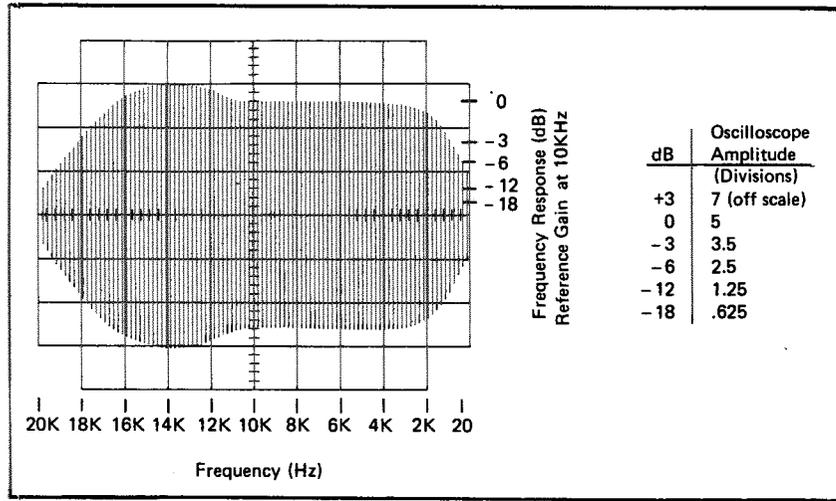
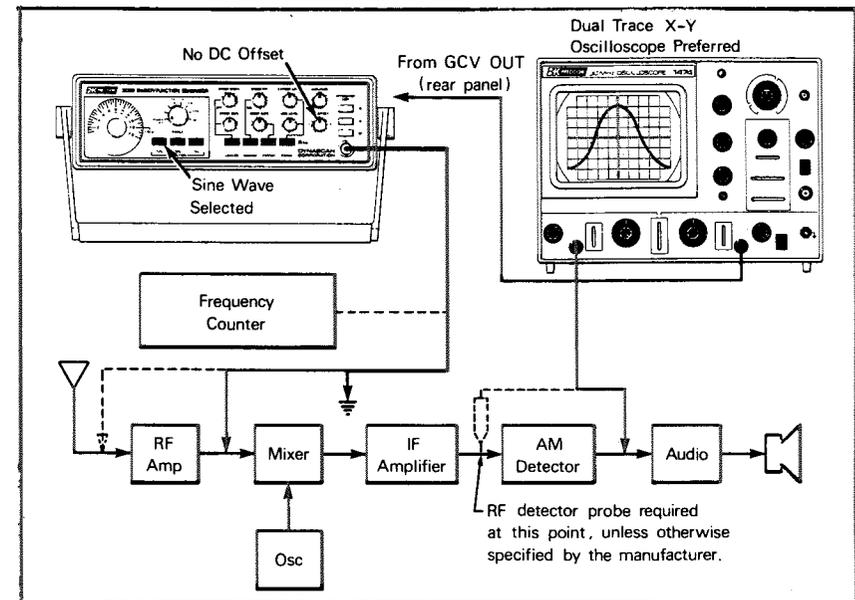

Fig. 14. Typical audio amplifier response display.
Fig. 17. AM receiver alignment.
When using a conventional oscilloscope probe, the display will be an envelope such as shown in Fig. 14. The relative gain or attenuation of all frequencies within the swept band is displayed. The display may be analyzed for acceptable or unacceptable frequency response characteristics. In wideband amplifiers, the objective is usually to maintain a flat frequency response over the widest possible bandwidth. Frequency response displays of filters and coupling networks show the cutoff frequency and the sharpness of the cutoff. The frequency response display is often the basis for alignment of RF circuits (Fig. 17 and 18). The display also may be analyzed to determine the center frequency of bandpass, symmetry of bandpass, bandwidth, gain or signal amplitude, *Q*, and rejection of adjacent frequencies.
1. Use the test set-up of Fig. 17, which will produce a linear sweep display.